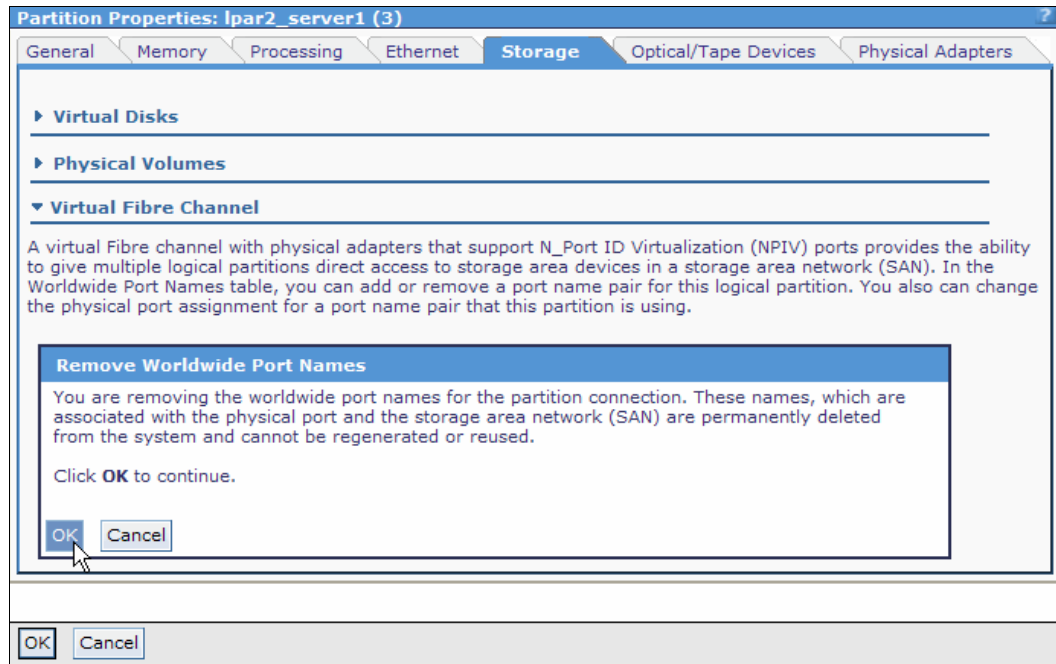

Figure 4-103 Confirmation window for removing a virtual Fibre Channel adapter
4. A confirmation panel is displayed, as shown in Figure 4-103. Click **OK** to continue.